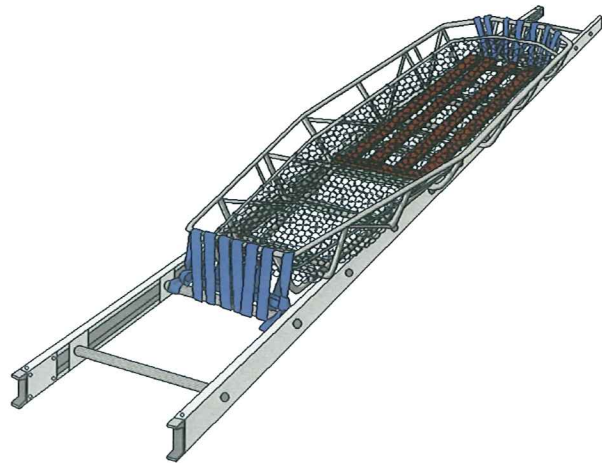

Figure 15-4: Lash the Litter to the Second Rung
2. Lash the foot of the litter to the second rung of the ladder. (Figure 15-4)